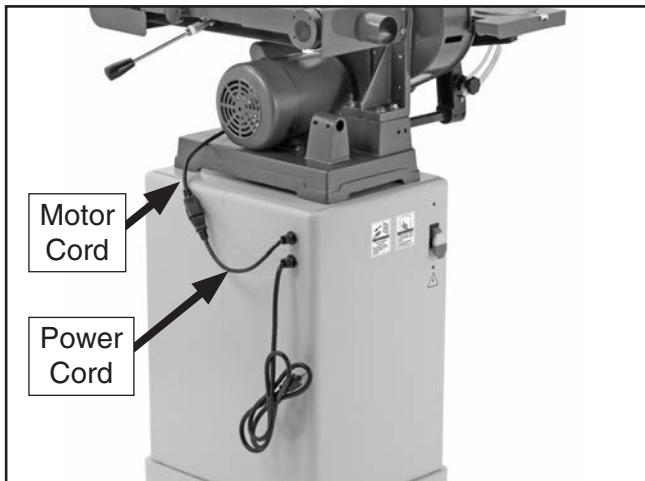

Figure 39. Motor cord connected to power cord.
- 27. G1014ZX Only:** Connect the motor cord to the power cord on the cabinet (see **Figure 39**). DO NOT connect the sander to the power until indicated in the **Test Run** section on **Page 29**.